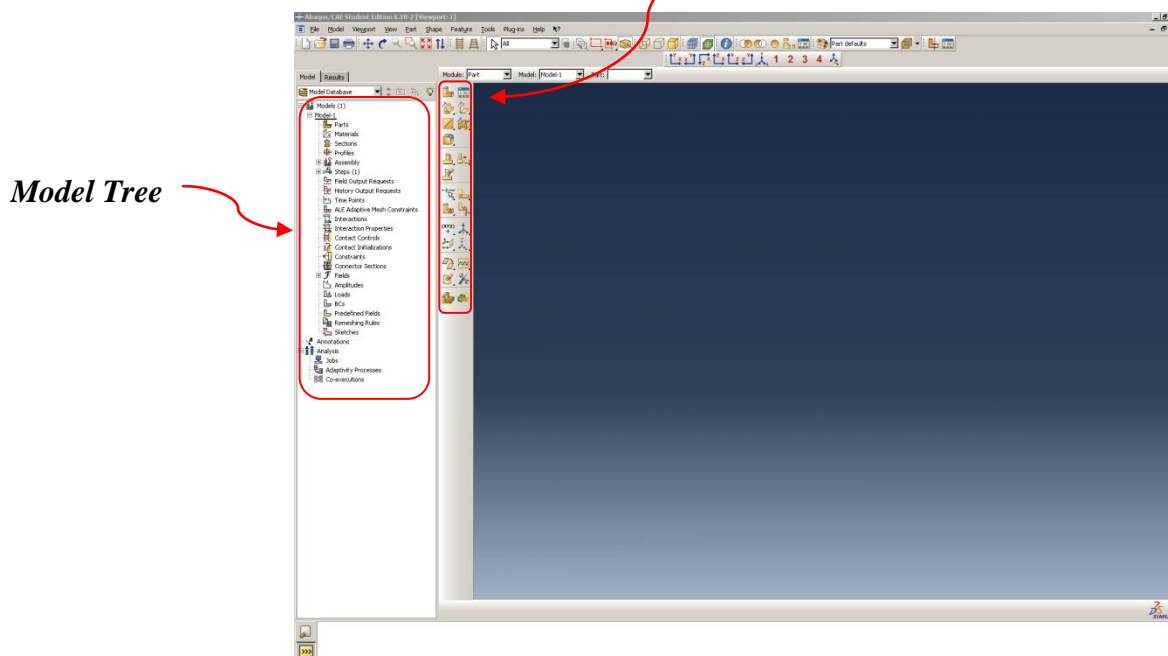

Figure 3. Abaqus CAE Viewport
- Once the **Student Edition** box is exited, the Abaqus CAE Viewport should look similar to Figure 3. (Please note the *model tree* is the series of functions listed on the left hand side of the viewport, while the *module* is the list of icons to the right of the model tree)